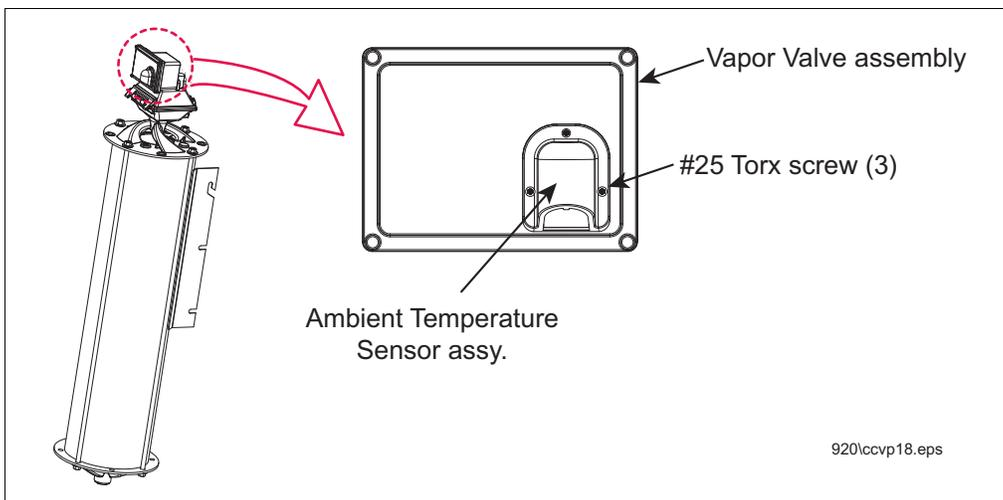

Figure 8. Remove Ambient Temperature Sensor assembly
1. Remove the three #25 Torx screws holding the Ambient Temperature Sensor assembly to the Vapor Valve assembly (see Figure 8).